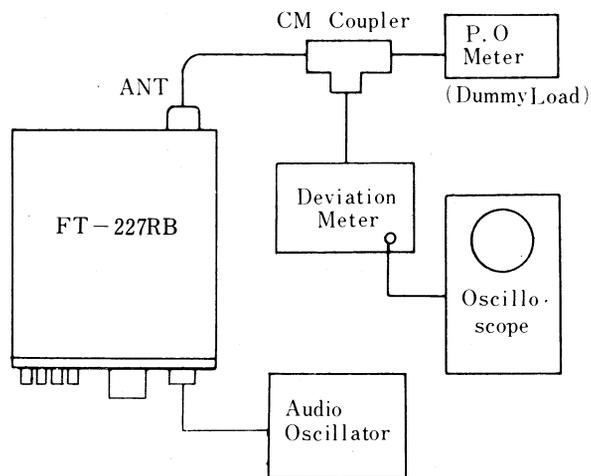

Figure 8
- a) Connect YP-150 to the antenna connector, the output of an audio oscillator between pin 6 (hot) and 5 (ground) of microphone receptacle and a deviation meter as illustrated in Fig. 8. Set the audio output level to 25 mV at 1 kHz.